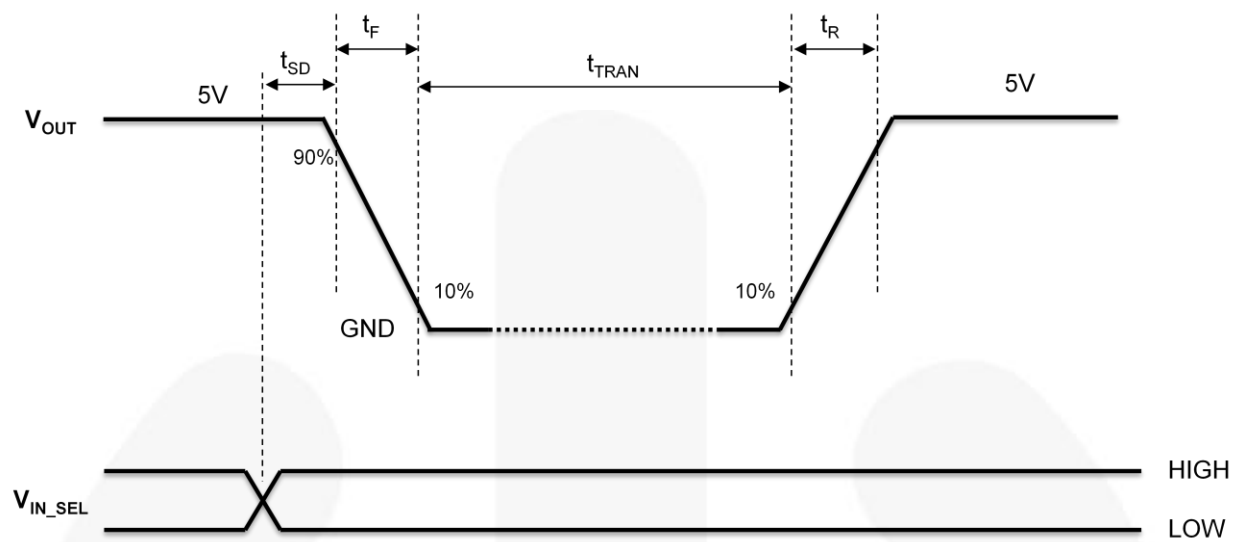

Figure 6. Transition Delay ( $V_{IN}=V_{BUS}=5\text{ V}$ )
7.  $t_{SD}/t_{TRAN}/t_R/t_F$  are defined in Figure 6.